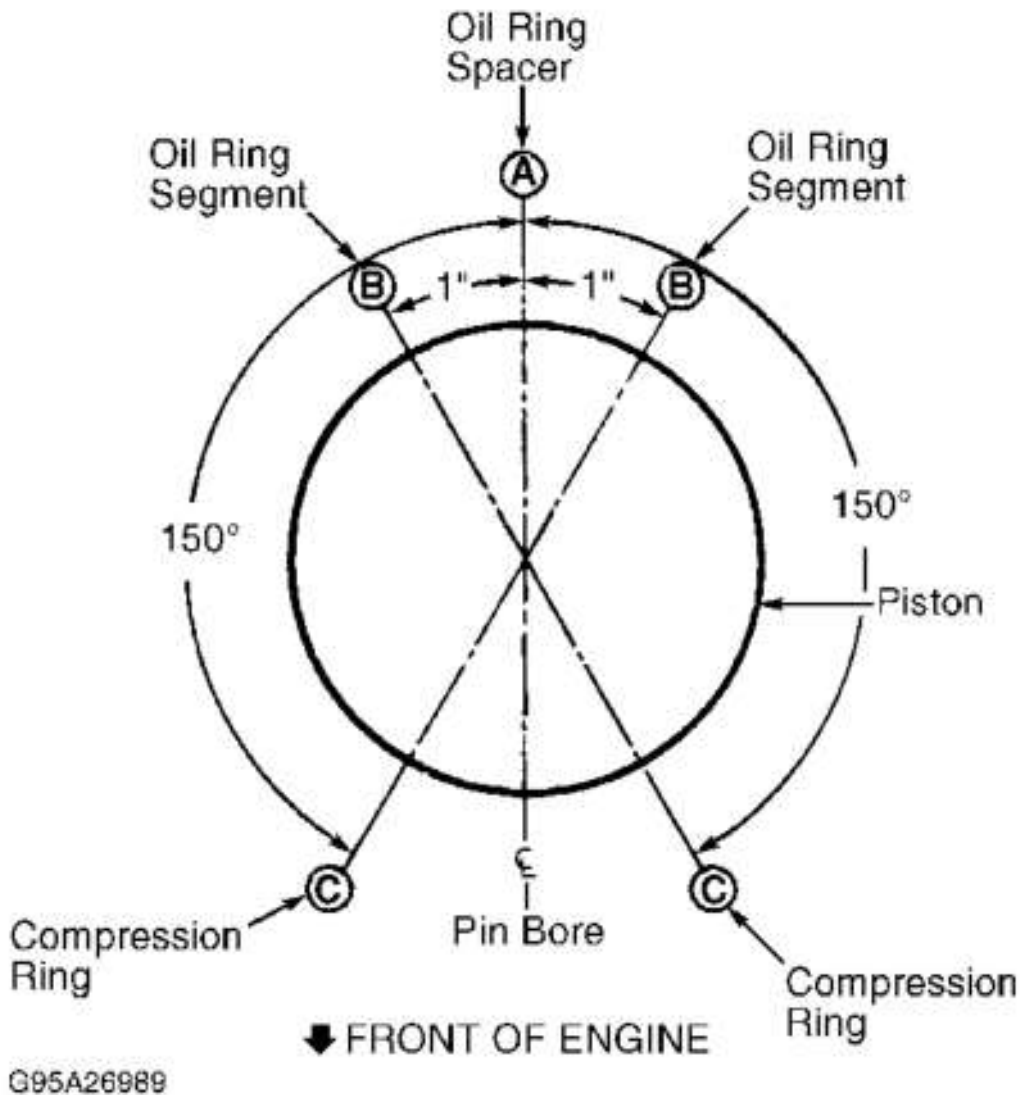

Fig. 10: Positioning Rings On Piston
2. Check side clearance of rings after installing on piston. Ensure clearance is within specification around entire circumference. Replace piston and/or rings if clearance is not within specification. See **PISTONS PINS & RINGS** table under ENGINE SPECIFICATIONS. Ensure rings are properly spaced on piston before installing pistons into cylinder. See **Fig. 10**.